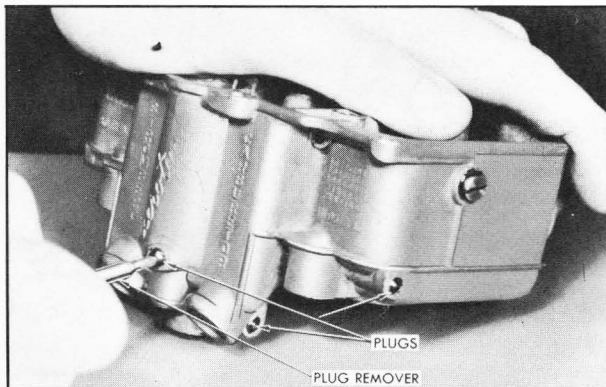

Figure 3-85—Removing Lead Ball Plug
6. Remove lead ball plugs from choke housing, using Plug Remover T-25052, shown in figure 3-85. Be careful not to damage plug seats in housing.
17. Remove all lead ball plugs from main body, using Plug Remover T-25052. See figure 3-85. Be careful not to damage the plug seats in body.